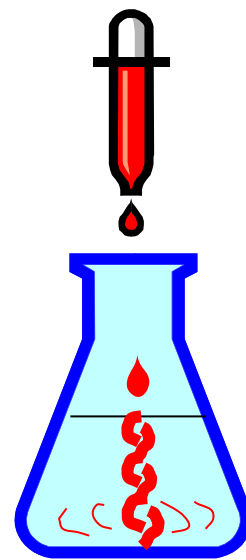

Figure 3, Superiorized® Water
5. A sample of Fort Wayne city water was collected and poured through the RT-500 Superior Water Conditioner® into the second beaker. See figure 3.